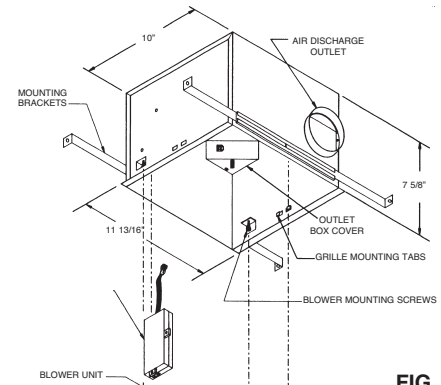

FIG. 1
2. Loosen three screws securing blower unit to housing and slide it toward outlet box. Carefully lift and tilt blower unit and remove from housing. Pull motor plug from receptacle. See Fig. 1.
8. Push blower motor plug into receptacle and carefully replace blower unit. Reverse procedure as noted. Tighten screws securely. See Fig. 1.
9. Squeeze spring on plastic grille and insert into tabs located in housing. See Fig. 1. Press grille firmly in place.